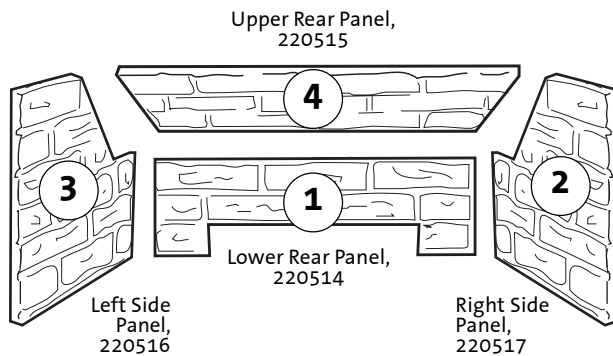

Figure 17. Panel installation order.
Install the optional Brick Panel Kit 155311 before placing the Logset. Place the panels in position in the order as numbered in Fig. 17. No fasteners or tools are required.
- 3. Install the Lower Rear Panel.** Orient the panel so that the cutout is at the bottom. Engage the bottom edge between the rear wall and the firebox base. See Fig. 17.